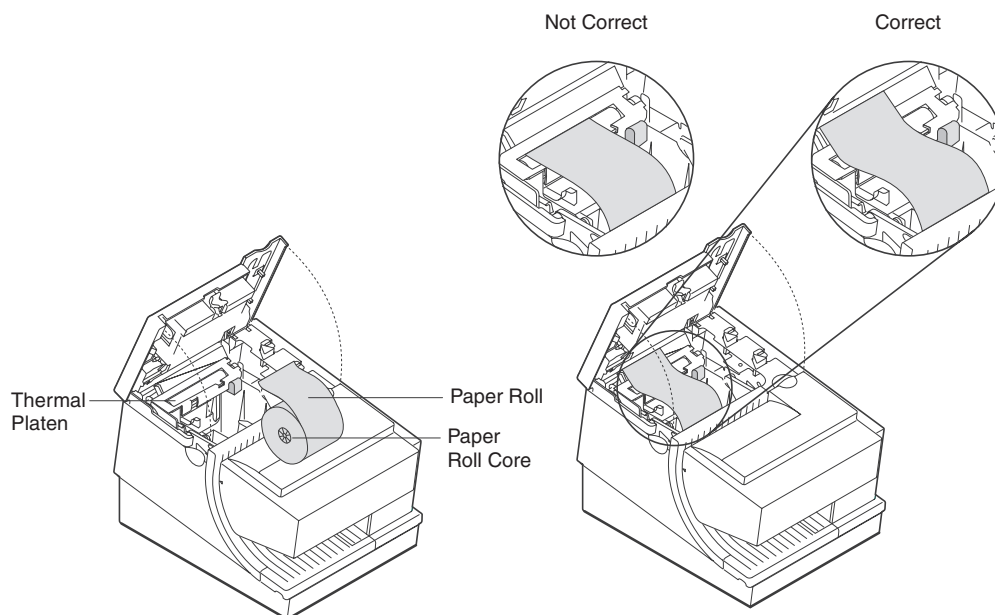

Figure 27. Paper Loading Path (Models T11, T12, T13, T14, T18, TG3, and TG4)
3. See Figure 27 on page 54 and place the paper roll into the paper roll bucket as shown. The leading edge of the paper should come from the direction of the front of the printer and go across the top of the roll as shown in the diagram. If it feeds from the bottom of the roll, nothing will be printed on the paper.
4. See Figure 27. Place the leading edge of the paper over the metal guide.